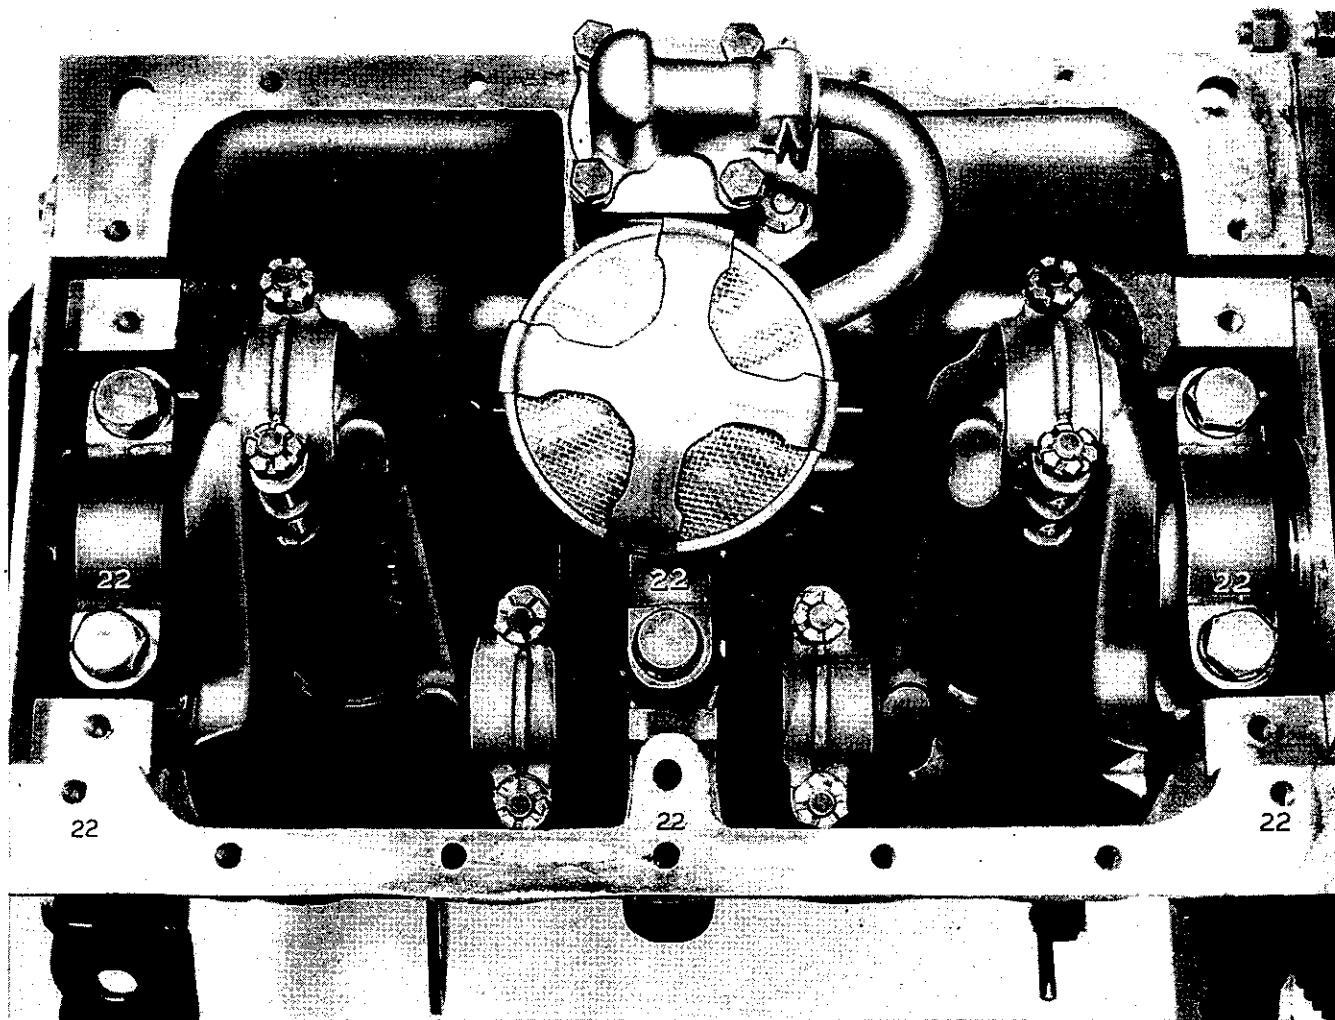

Fig. 30. Showing relation of connecting rod and bearing cup markings with those on the cylinder block
39. Remove connecting rod caps, after withdrawal of bolts and split pins. ($\frac{5}{8}$ " A/F Spanner). Note position of markings on connecting rods in relation to those on the cylinder block, an example of which is shown in Fig. 30.